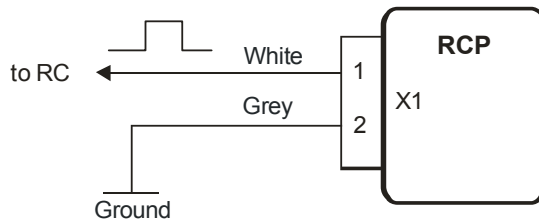
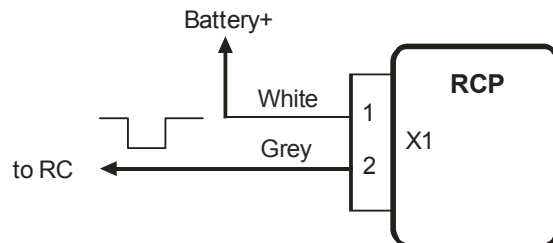

Figure 5
Figure 6
- The fig.5 presents the scheme of turning the heater off by the impulse of positive polarity. The fig.6 presents the scheme of turning the heater off by the impulse of negative polarity.